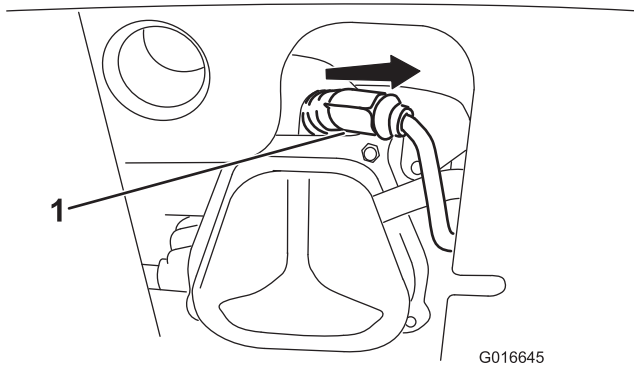

Figure 46
1. Remove the boot (Figure 46).